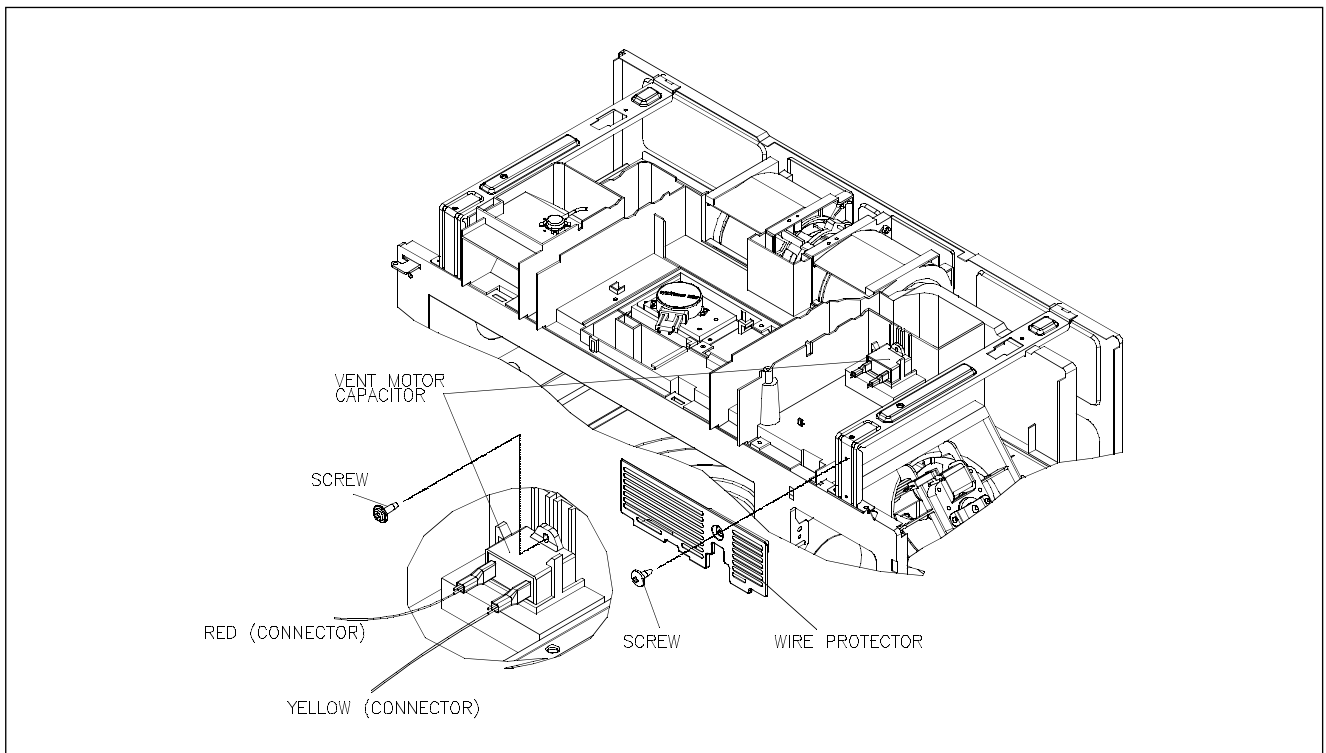

FIG. 6
6. Reconnect the wires to the new vent motor capacitor terminals, as shown in the FIG. 6.